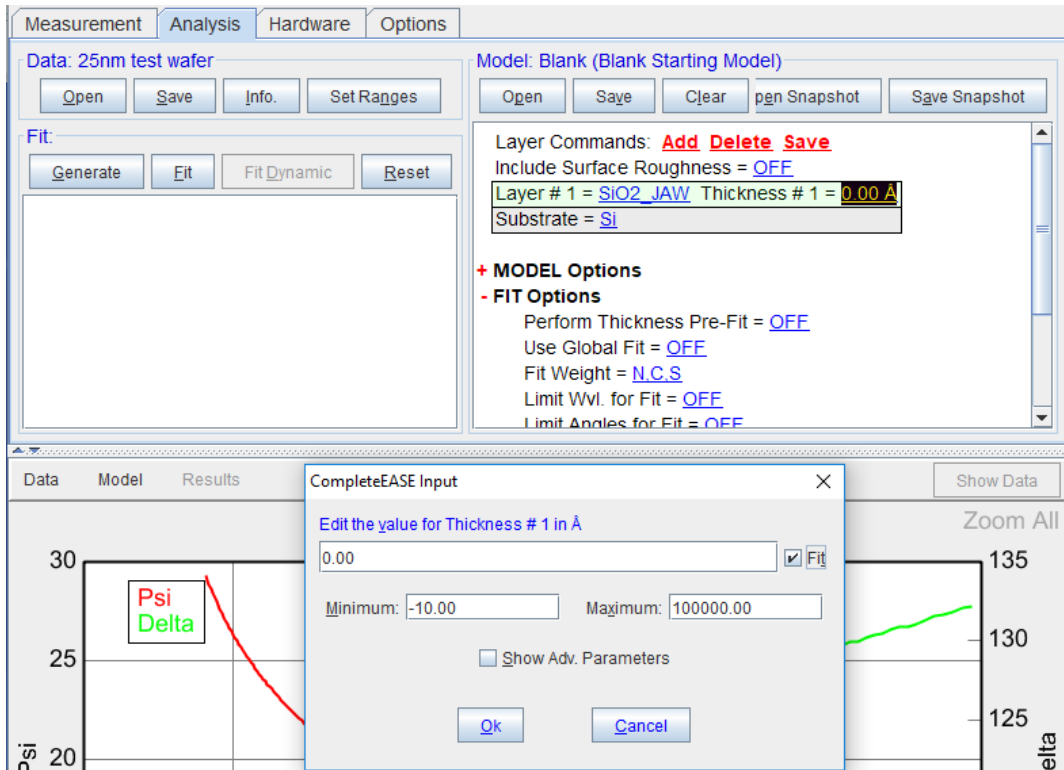

Figure 7: for step 8.6 and 8.7
- 8.5) Click on the ‘Thickness #1 = 0.00 Å” next to the layer material. Enter the estimated value of the thickness and check ‘Fit’ on the right (Figure 7).
8.6) If you don't have a good estimation of the thickness, click the '+' on the left of the 'FIT Options' to open the list and click the 'OFF' next to 'Perform Thickness Pre-Fit' to switch it to 'ON' (Figure 7).